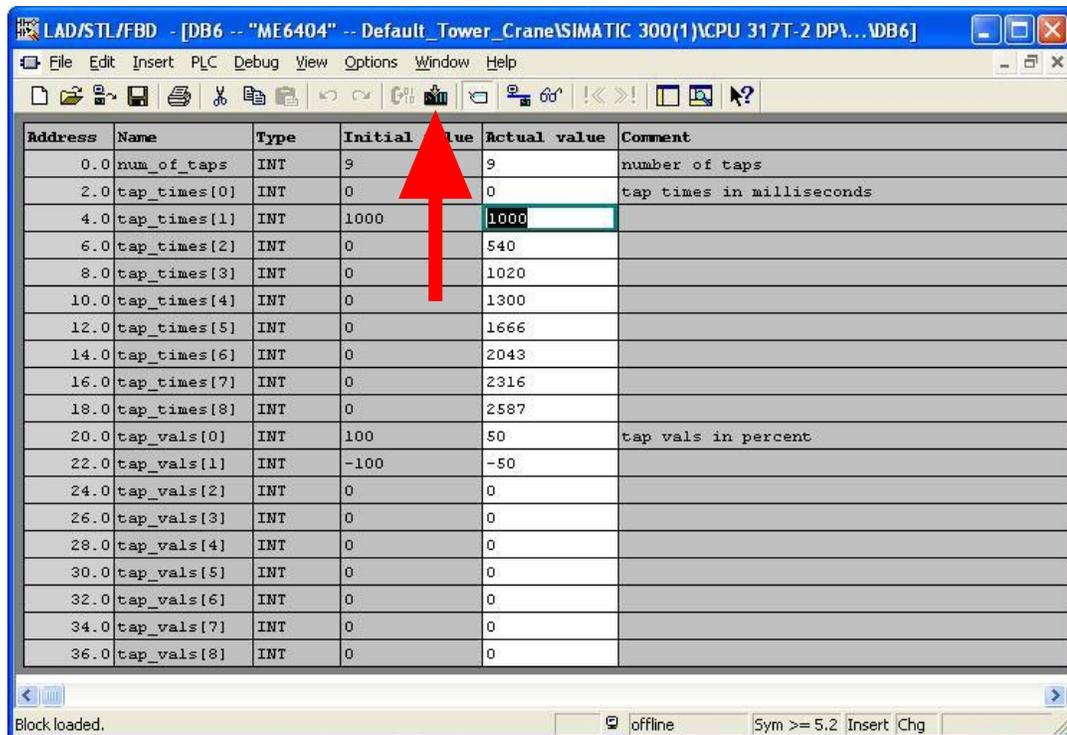

Figure 4: Modifying Velocity Profiles
- Click on “**View>Data View**” and you should see the following window, shown in Figure 4. You will need to change the numbers under the “**Actual Value**” column.
14. When you are done, click on the “**Download**” button shown by the arrow shown in Figure 4.